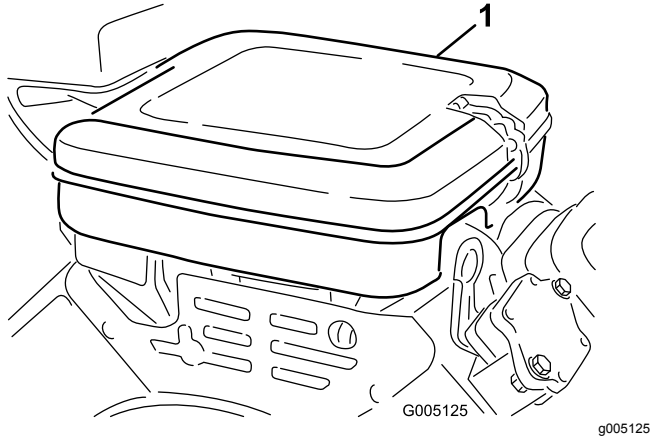

Figure 45
1. Clean the cover thoroughly (Figure 45).